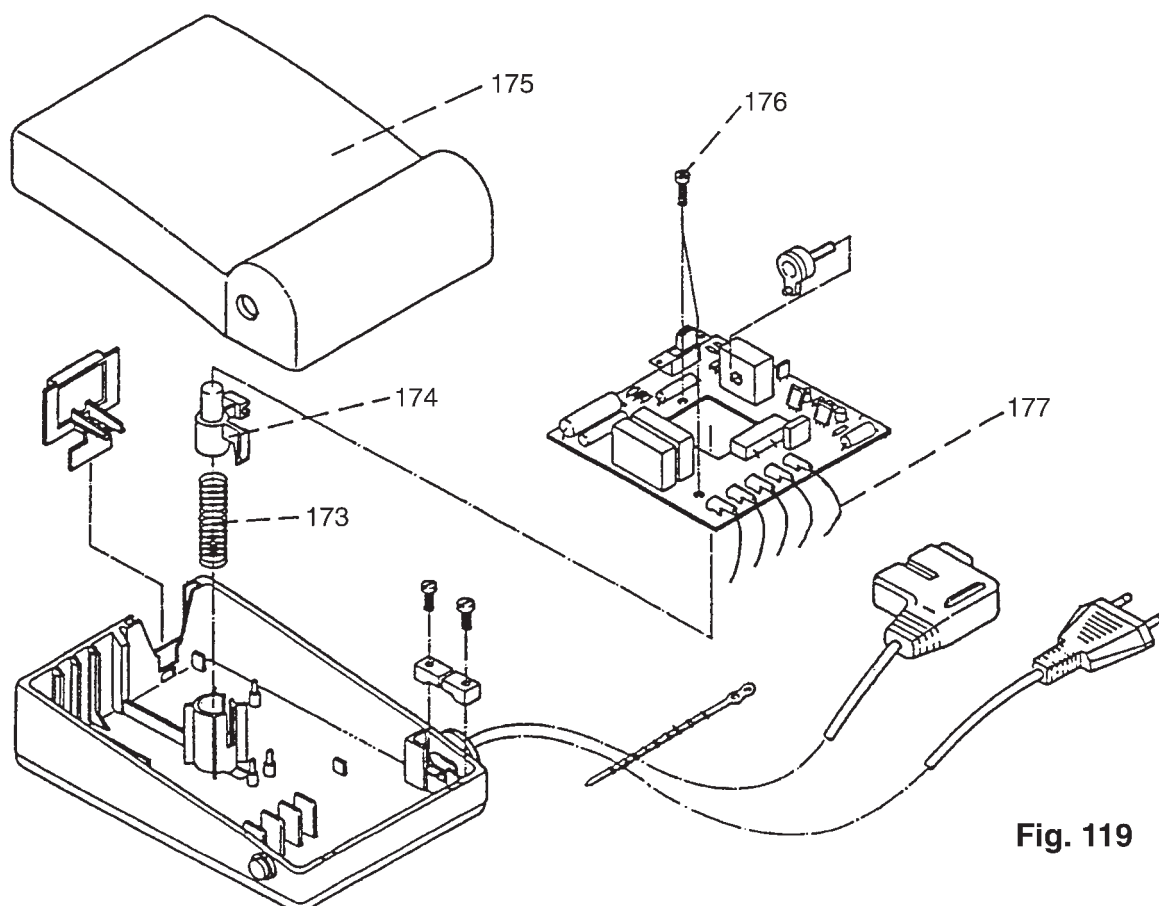

Fig. 119
- Insert a screwdriver with a wide blade on the side opposite to the cables (fig. 119).
- Carefully remove cables 177 from the circuit board (fig. 119).